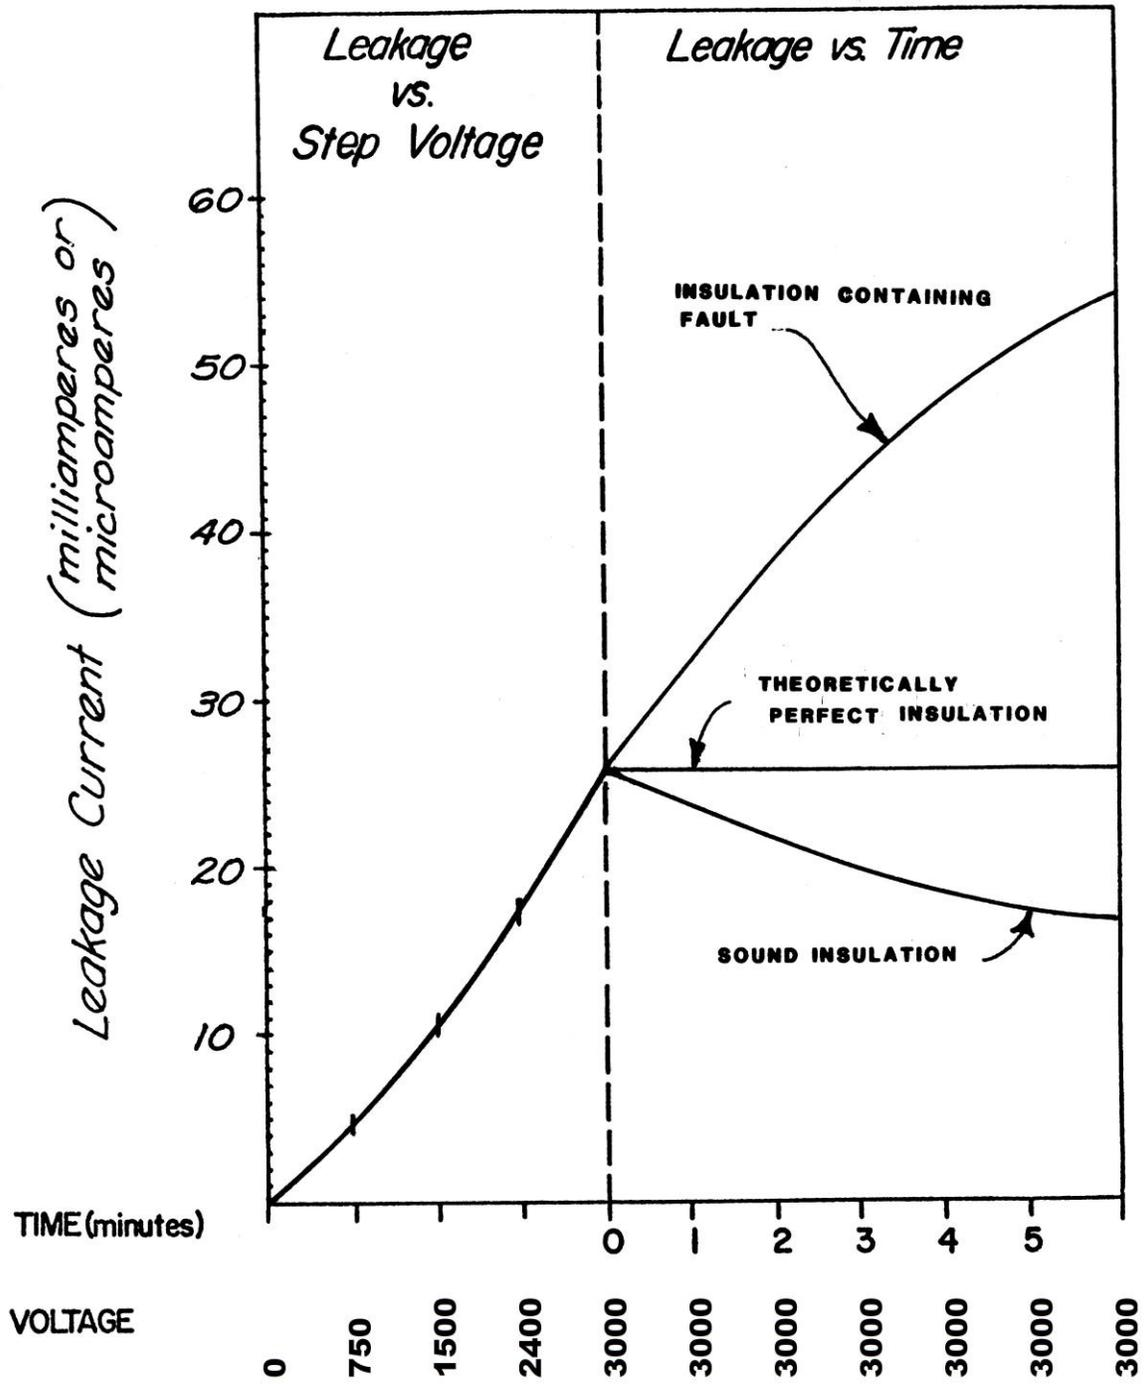

FIGURE 1
- b) Slowly increase the voltage from 0 to 750 volts, then to 1500 volts, and then to 2400 volts. At each step, hold for 1 minute and read the current. Record leakage current values and plot a "Leakage versus Step Voltage Curve" on a form similar to that shown in Figure 1.
(See Attachment: Figure 1, Graph of Leakage vs Time)